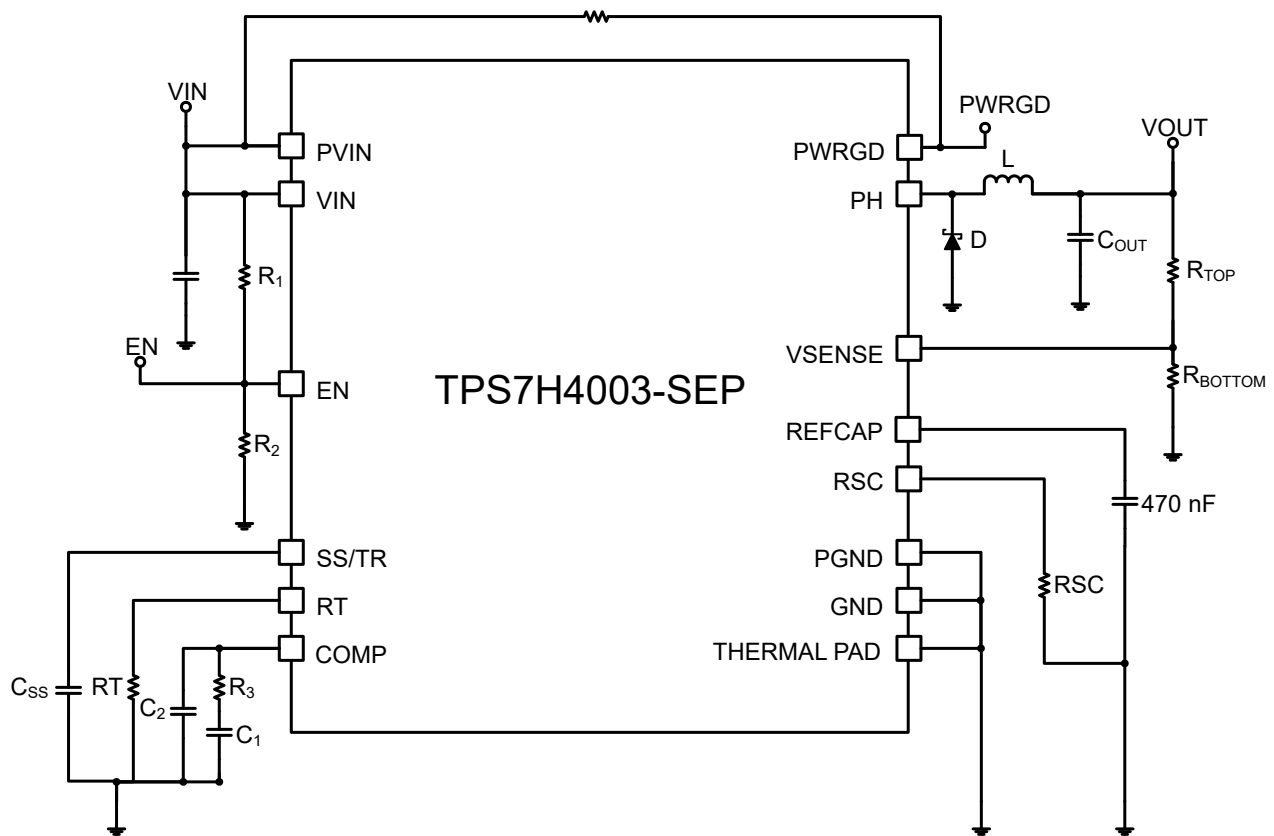

Figure 8-1. Typical Application Schematic
Figure 8-1 shows a Schottky diode between the phase node pin (PH) and GND of the TPS7H4003-SEP. This external diode is in parallel with the internal low-side power FET of the device and typically has superior reverse recovery characteristics when compared to the body diode of the internal low-side FET. This improved reverse recovery provides two key benefits. The first benefit is an better overall efficiency for the converter due to lower losses associated with the diode reverse recovery. The second key advantage is that the parasitic-induced noise associated with the reverse recovery current pulse (as detailed in Figure 5 of Power Loss Calculation With Common Source Inductance Consideration for Synchronous Buck Converters) is drastically reduced. In the absence of the Schottky diode, this noise can manifest itself on the power ground plane internal to the TPS7H4003-SEP. If significant enough, the noise can reduce the dynamic range of the error amplifier and result in higher output voltage ripple. For this reason, it is highly recommended to use the external Schottky diode in the converter design. At the least, a PCB footprint for the diode should be included in the PCB design phase in case it is needed to achieve the system requirements.